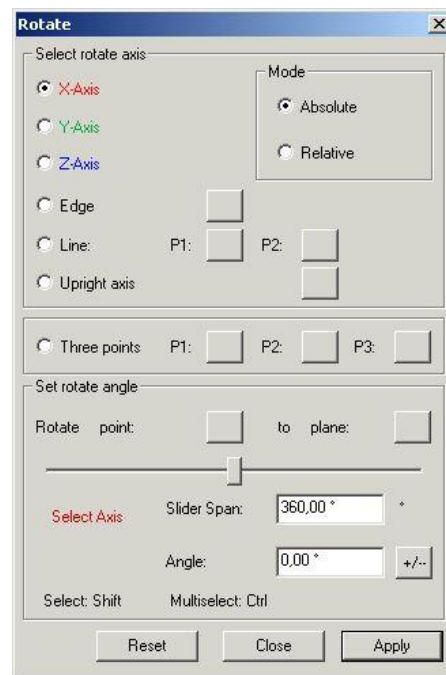

Figure 54: New Dialog for Rotating Objects
The *rotate angle* function is helpful if you want, for example, to set an object via a defined rotation angle at the source object in relation to a specific plane of the target object – this means that there must be specified values for the rotation axis and the rotation point for the body to be rotated, if you want the body to rest on the surface of another body. All rotation axes required are available for this purpose (*Please refer to the Figure 54*). You can choose between an absolute and a relative mode for each rotation axis (X, Y and Z).
- 1) Click *Apply* after selecting the rotation angle and the target level (Please refer to the Figure 54). Press the "Close" button to close the Rotate dialog. Thus, the marked levels will no longer be visible.